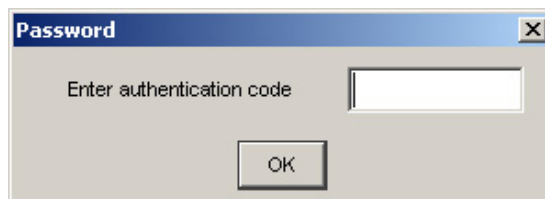

Figure 4-9: Password Dialog Box
- Step 5.** When login as an administrator, enter "root" as the authentication code in the **Password** dialog box at the first time login, and then click **OK**. (See *Figure 4-9*) The authentication code can be changed later in the utility. Only an administrator who has the password can access the notification settings.